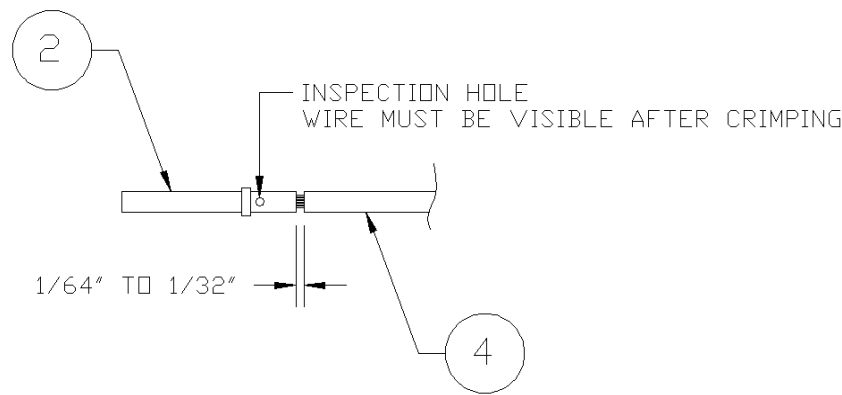

Figure B-17. Insulation/Contact Clearance
4. Strip back approximately 0.17 inches of insulation from each wire of the shielded cable (item 4) and crimp a contact (item 2) to each conductor. It is the responsibility of the installer to determine the proper length of insulation to be removed. Wire must be visible in the inspection hole after crimping and the insulation must be 1/64 – 1/32 inches from the end of the contact as shown in Figure B-17.
3. Strip back approximately 0.17 inches of insulation from each wire of the shielded cable (item 4) and crimp a contact (item 2) to each conductor. It is the responsibility of the installer to determine the proper length of insulation to be removed. Wire must be visible in the inspection hole after crimping and the insulation must be 1/64 – 1/32 inches from the end of the contact as shown in Figure B-17.